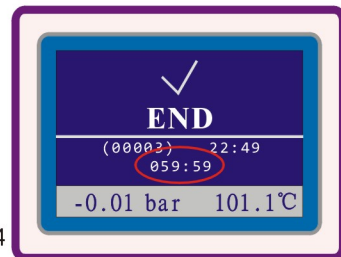

Fig.6.4-24
Until LCD appear Fig.6.4-24 interface, at this time you hear “Ka”, it means electromagnetic lock has been release. You can open the door and take out the instruments. “END” is means the sterilization cycle is over.
(10) **Sterilization Evaluation:** the sterilization cycles is over, the control system will do Sterilization evaluation. Evaluation concluded that two kinds: 1、“✓” is qualification; 2、“X” is failure.(Fig.6.4-24)
(11) **Save Electricity Function:** when this interface(Fig. 6.4-24) stationary on the LCD, it appear 59:59 countdown, after one hour, if no one to open the door and remove this interface. the control system judged as operator have left. To reduce the risk and save electricity, it will stop to the heating coil and the steam generator power. Until you get back to open the sterilizer door can only be to the heating coil and the steam generator to restore power.